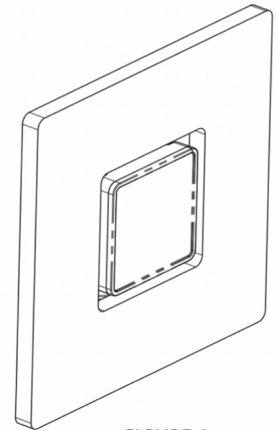

FIGURE 1
2. Mark and cut out section of drywall allowing approximately 1/2" clearance around the SP160 enclosure. (See Figure 1)